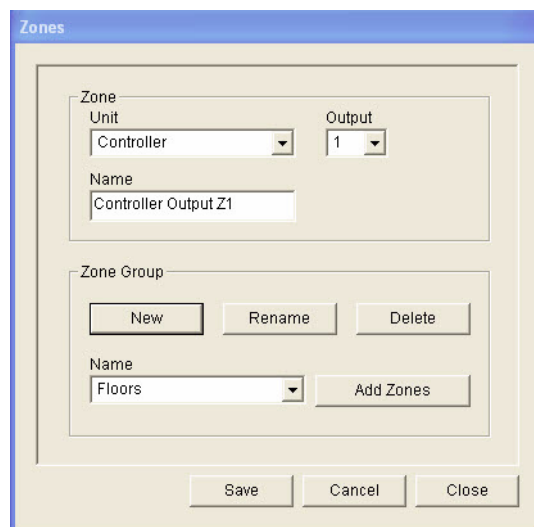

Figure 4.6 New zone group (step 2)
5. Click the Close button to close the Add zones property sheet. The zones property sheet appears again (refer to Figure 4.6 for an example).